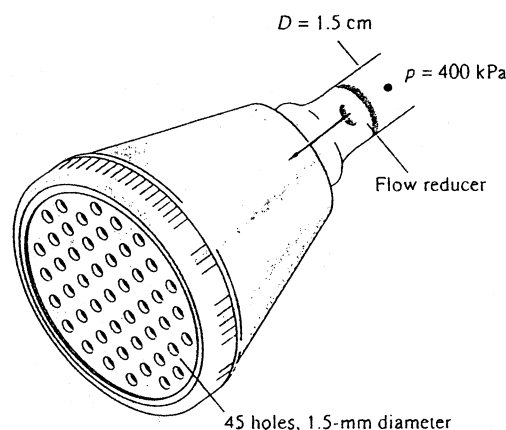

Fig. P6.142
6.142 The shower head in Fig. P6.142 delivers water at 50°C. An orifice-type flow reducer is to be installed. The upstream pressure is constant at 400 kPa. What flow rate, in gal/min, results without the reducer? What reducer orifice diameter would decrease the flow by 40 percent?